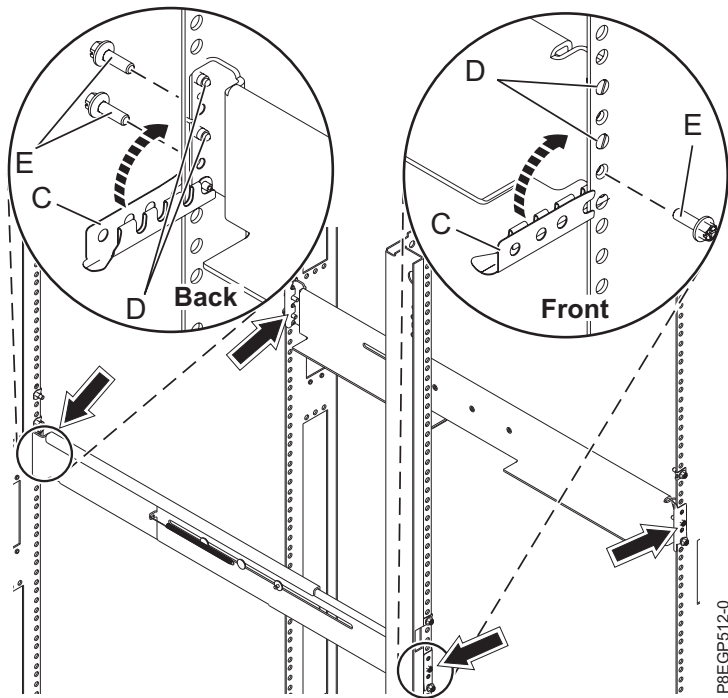

Figure 6. Attaching the rails
- a. Extend the right rail and insert the rail pins **(D)** into the two lowest mounting holes that are marked on the rack so that the rail is facing upward as shown in Figure 6 on page 9
- b. Rotate up the front clamp **(C)** to secure the rail in place as shown in Figure 6 on page 9.